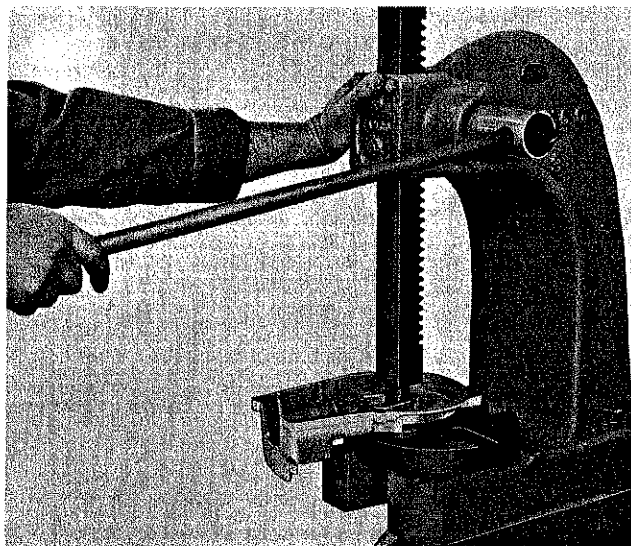

Figure X-9. Using an arbor press and a driver to press the oil seal from the crankcase cover.
8. Press the oil seal out of the crankcase cover. (Figure X-9)